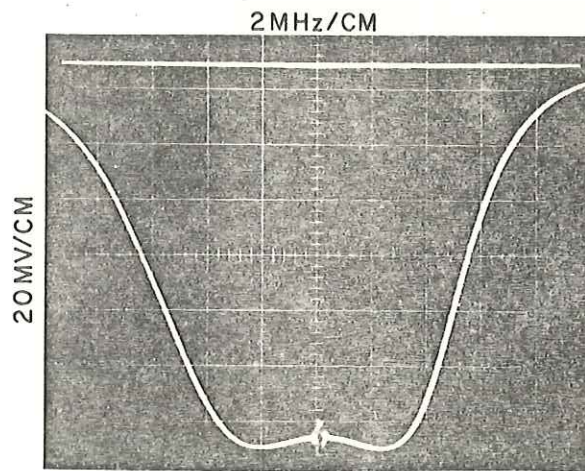

Figure 4-5. Typical Response, 160/21.4 MHz Converter
- (2) Remove the connector at A5J2.
- (3) Set the sweep generator output frequency to 160 MHz. Turn on the internal 160 MHz marker or apply an external 160 MHz marker.
- (4) Adjust the oscilloscope and sweep generator controls to display a response curve.
- (5) Adjust capacitor A5C14 for maximum signal amplitude.
- (6) Adjust capacitors A5C13 and A5C8 for symmetry and response. A typical response curve is shown in Figure 4-5.